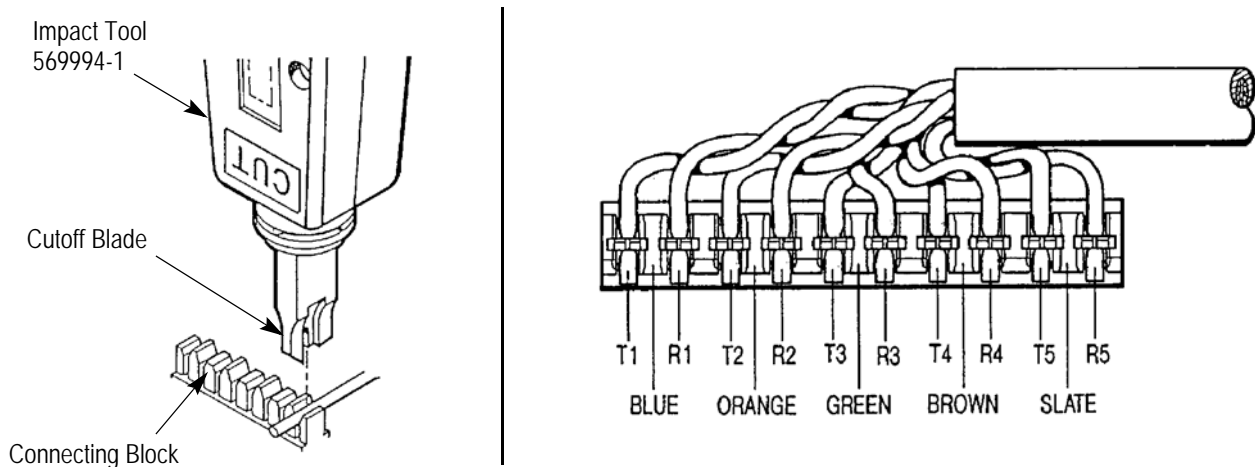

Figure 6
1. Cross-connect wires are terminated in the top of the connecting block using Impact Tool 569994-1 or KRONE* universal wire insertion tool. See Figure 6. Use low impact setting.